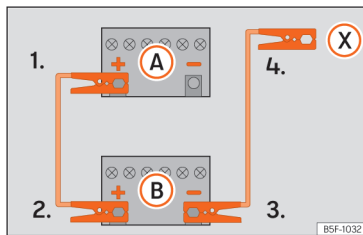

Fig. 161 Diagram of connections for vehicles without Start Stop system
- Vehicles without a Start-Stop system:* connect one end of the black jump lead to the negative terminal **-** of the vehicle providing the current **B** »» Fig. 161.